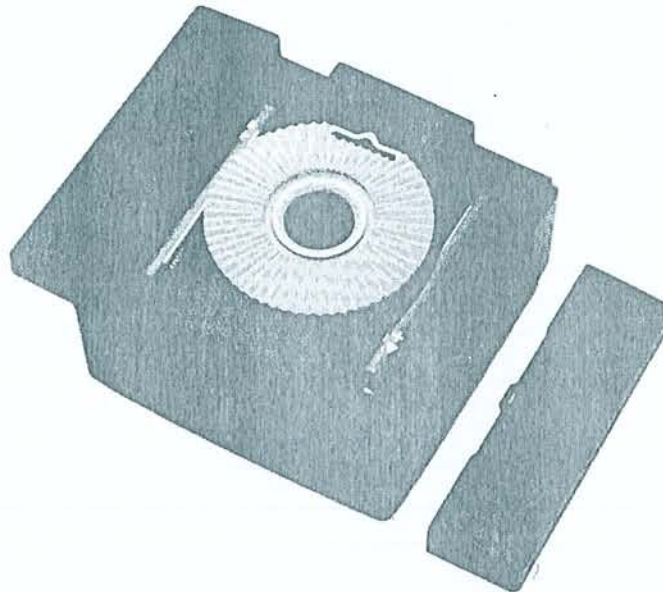

Fig.1.2 Replacing the batteries
3. Remove the two battery lids on each side of the 1/2" adaptor by sliding them outwards (see Fig.1.2).